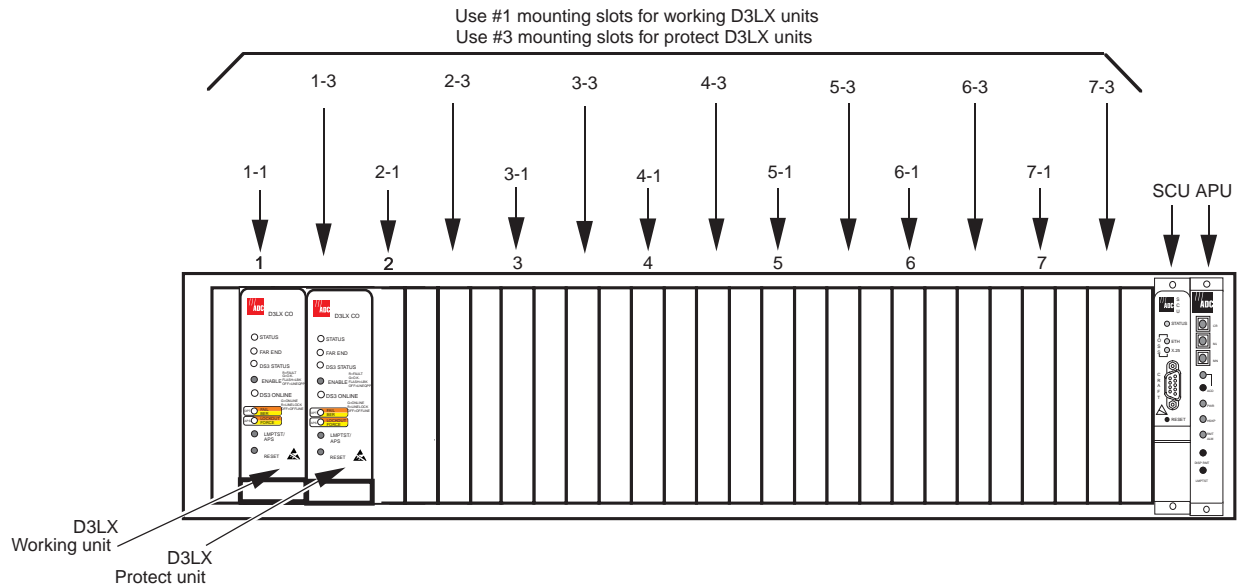

Figure 6. D3LX Module Locations in Loop Extender Chassis
- 5 Refer to Figure 6 on page 11 for D3LX CO module locations chassis and slot corresponding to the DS3 signal.
- 4 On the APU, as shown in Figure 6 on page 11, press the LMPTST/APS pushbutton. Did all D3LX CO indicators light?